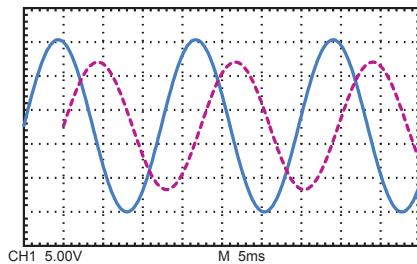

Figure 1b. Voltage and current waveforms are sinusoidal but out of phase; PF < 1.
Power factor (PF) is technically the ratio of real power consumed to apparent power (volts RMS x amps RMS), and is expressed as a decimal fraction between 0 and 1. PF is traditionally known as the phase difference between sinusoidal voltage and current waveforms. When the AC load is partly capacitive or inductive, the current waveform is out of phase with the voltage (Figure 1b). This requires additional AC current to be generated which isn't consumed by the load, creating I^2R losses in power cables.